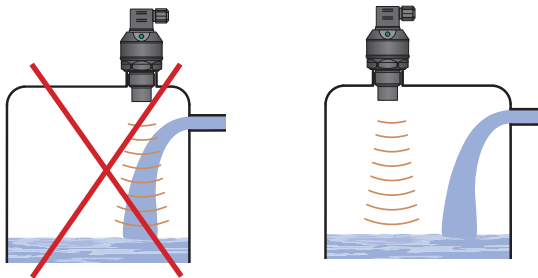

Fig. 7: Installation of the device out of reach of filling circulation
- i) Do not install the device in or above the **filling** point (Fig. 7). The measurement could be affected by the inflowing medium.